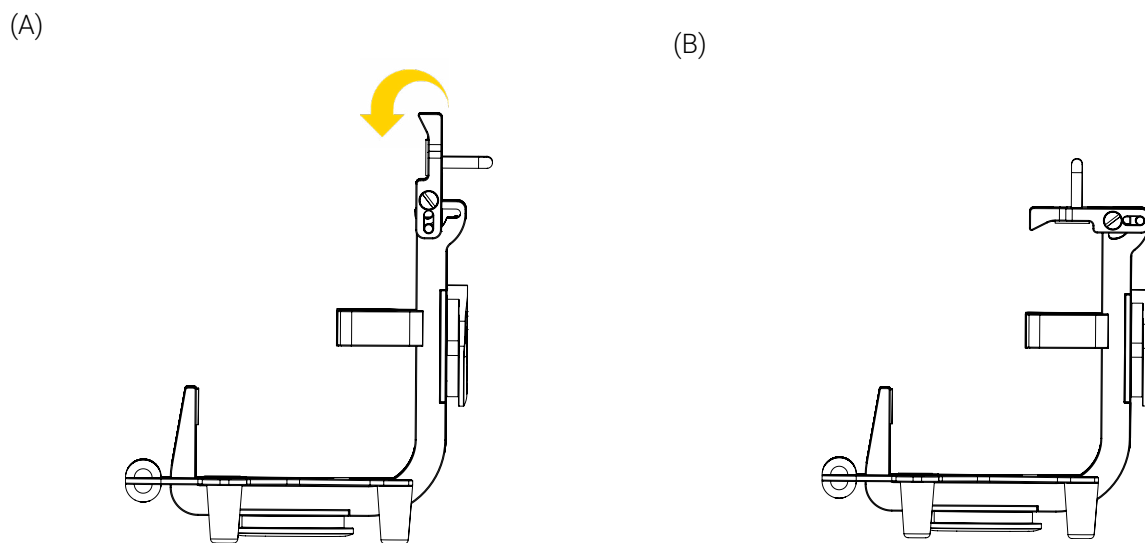

Figure 10: Closing and locking the mounting system
3. Flip the top of the mounting system over towards the front and press it until it is locked and secured (Figure 10).